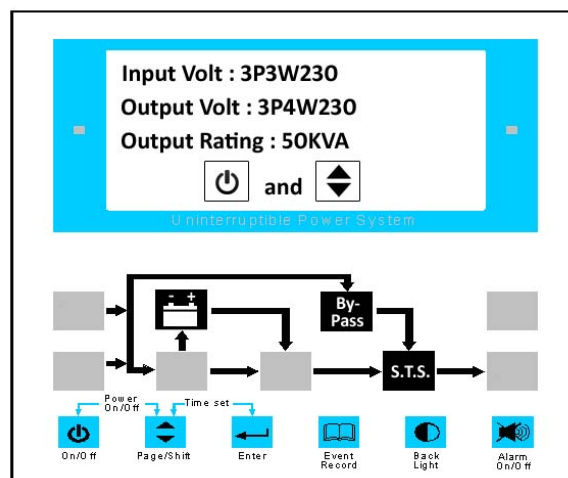

Figure 13 : LCD and Indicators - 1
4. Switch ON 「7. Battery Input N.F.B.」 (see Figure 4) and you will hear a short beep. The indicators will light and LCD will show as Figure 13.